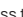

Fig. 89 Remote control key: buttons.
- Lock: press the  » Fig. 89 button.